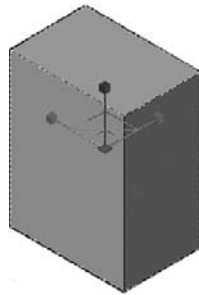

FIGURE 23.18
- Step 3.** You also see a scaling gizmo appear, which snaps to whatever base point you select (Figure 23.18).